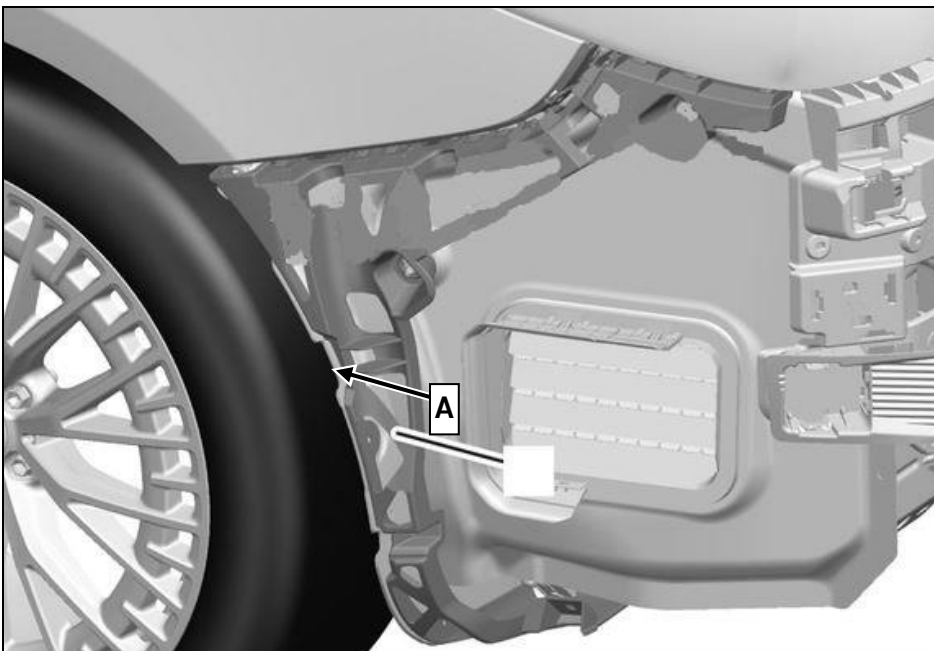

Figure 1
2. Remove bracket (A, figure 1) from left rear bumper.